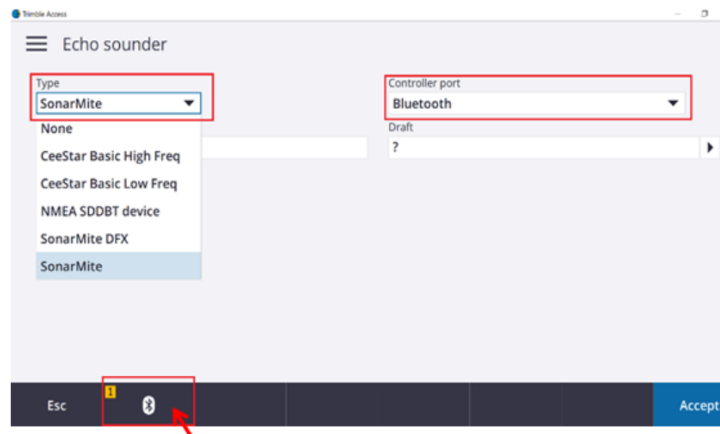

Figure 4: Location of Bluetooth Icon in Trimble Access Window.
3. Select type "SonarMite". Controller port "Bluetooth", see Figure 4.
4. Click the Bluetooth icon on the bottom bar of the Trimble Access window to see paired devices. See Figure 4.